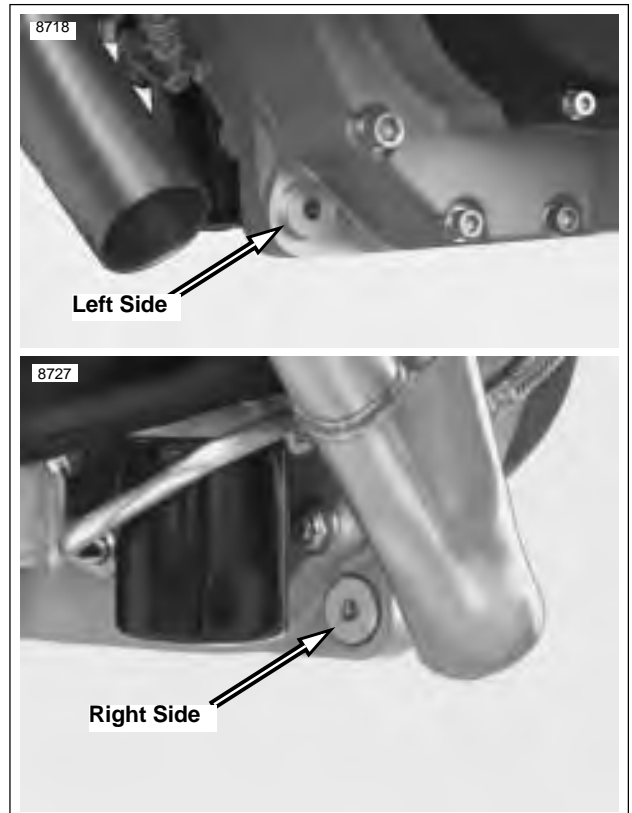

Figure 3-30. Front Exhaust Mount Bushings (2 piece)
- d. See Figure 3-30. Aluminum bushings from front exhaust mount.